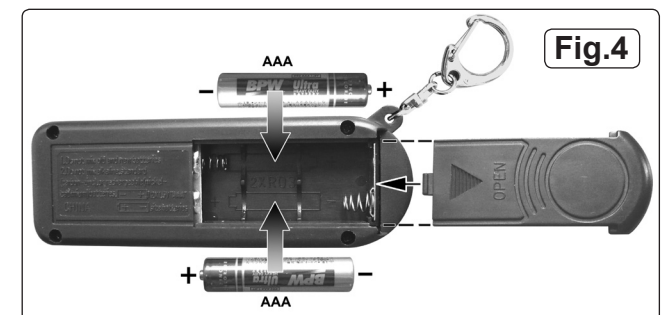

Fig.4
- 4.1.1. Slide off the battery cover on the underside of the remote control and remove the old batteries. Replace with new AAA batteries ensuring that the polarity is as shown in fig.4 below. Close the battery compartment by sliding the cover back into place.